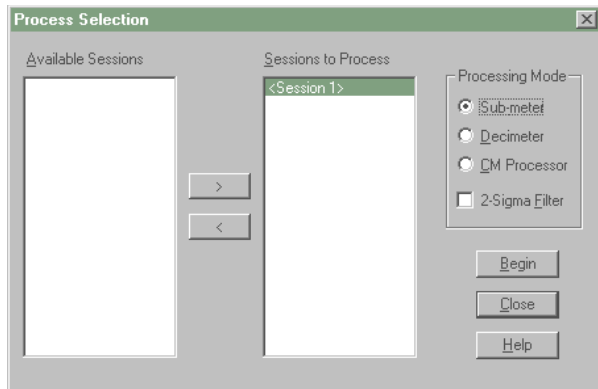

Figure 9. “Process Selection” window.
15. If you are interested in differentially- correcting your GPS measurements using a base station file, you must first return to the “Project Control” window and then click the icon that corresponds to the “Process Data” option. A “Process Selection” window, similar to the one depicted in Figure 9, will appear. Check the “Sub-meter”